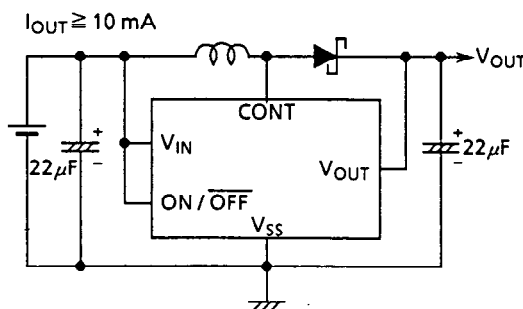

Figure 12
The difference between Figures 12 and 13 is a V_{IN} connection. The connection to be used depends on the purpose. The connection shown in Figure 12 is suitable for high output current ($\geq 10 \text{ mA}$). The connection shown in Figure 13 is suitable for low output current ($I_{OUT} < 10 \text{ mA}$) because minimum operating supply voltages is reduced. (See the supply voltage-output voltage characteristics on the next page. Use RCH855-47 μH manufactured by Sumida Electric for the coils and D1NS4 for the external diode.)
$V_{IN} \neq V_{OUT}$ (in the circuit shown in Figure 12)
- Do not apply a supply voltage of less than 0.9 V at V_{IN} in the standard circuit shown in Figure 12. If a voltage of less than that is applied, the input current may increase rapidly. The input current may increase rapidly in the application of a low supply voltage and a low load current ($I_{\text{OUT}} = 20 \mu\text{A}$) when the S-8436 series is used.